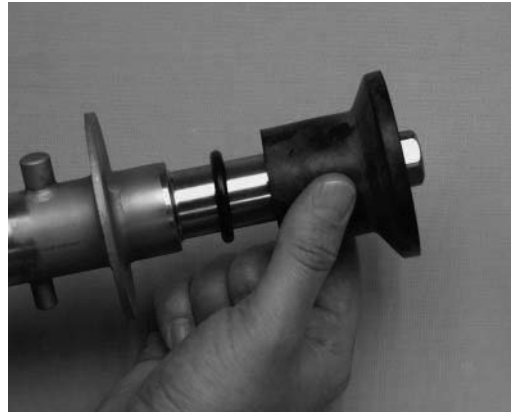

Figure 3-5 Rear Seal Assembly
4. Wipe the lubricant off of the hex ends of the augers with a paper towel. Remove the rear seal assemblies (Fig. 3-5).